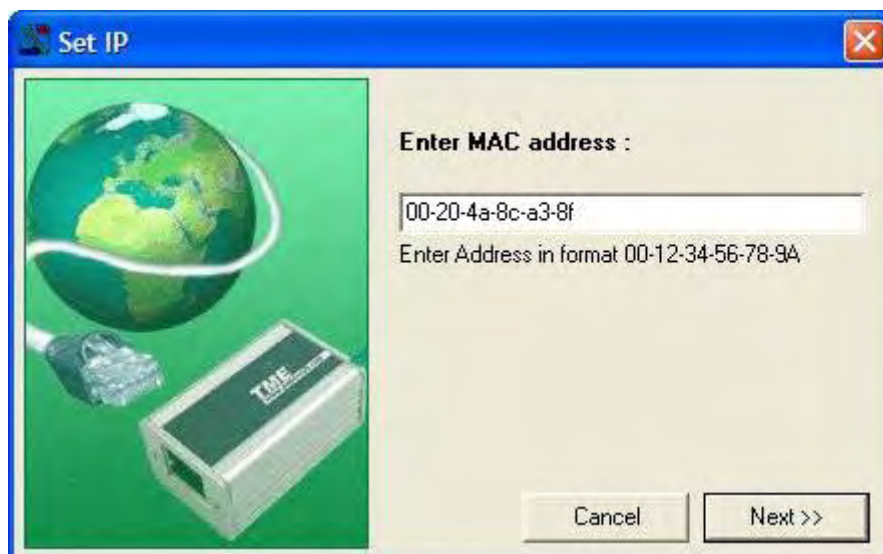
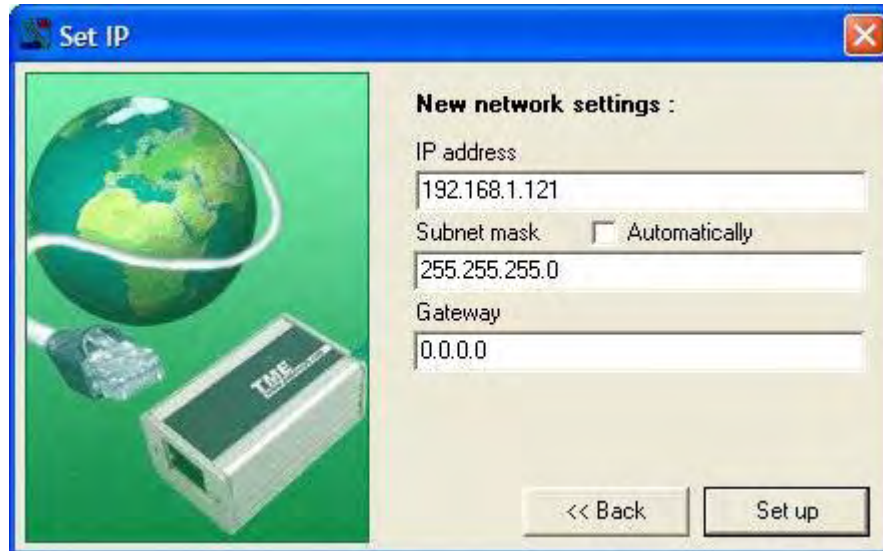

Fig. 6 – the first screen of the new IP setting wizard
Fig. 7 – IP settings wizard > setting the IP address, subnet mask and gateway
- 2) Activate the supplied configuration program2 and click on "IP setting." A wizard is thus opened, in which you first enter the MAC address of the converter (written on the label on the module's side) and then the basic network parameters. (Cf. the description of this wizard under the heading "Set the IP settings" on page 12, and also Fig. 6 and Fig. 7.)
Using this command, you can assign a new IP address to the converter. This procedure is specifically suitable for connecting converters in production, because the basic parameters can be adapted for a new network. When you click on this button, the window shown in Fig. 6 is displayed. Write the MAC address to look for5 and push "OK."
The entered MAC address is looked for. When it is found, the screen shown in Fig. 7 is displayed.
Set parameters suitable for your network in the screen shown in Fig. 7. If you are not sure what parameters you should choose, contact your network administration, who will give you the required data.